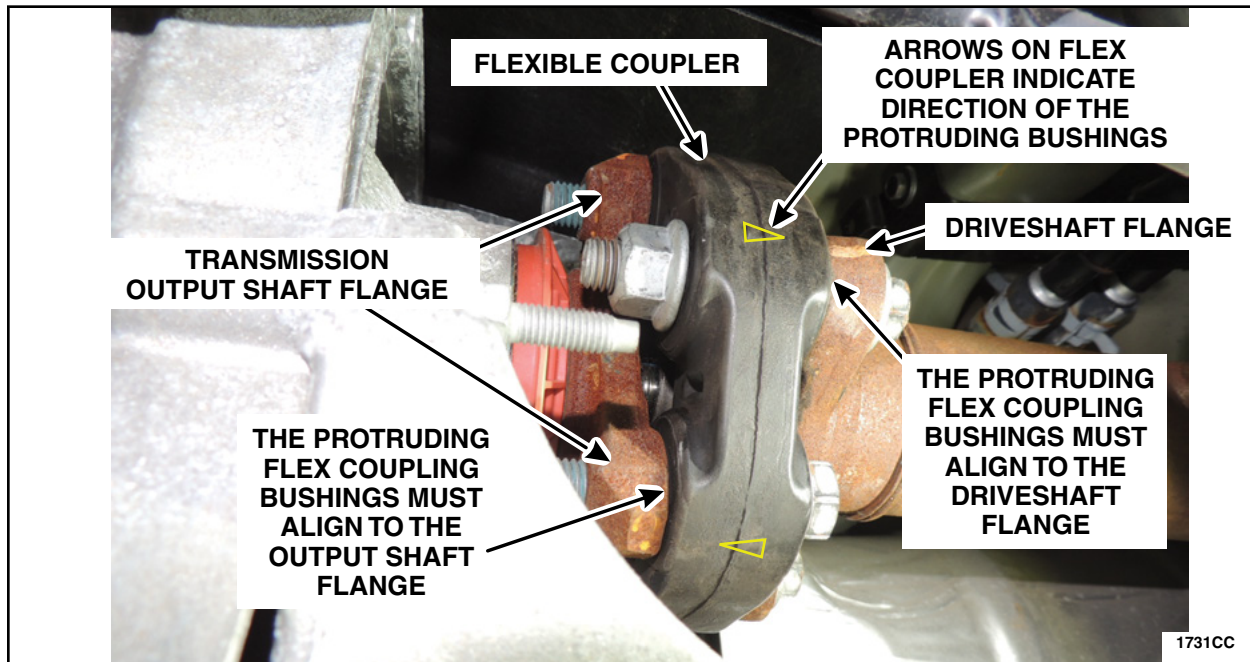

FIGURE 12
10. Reinstall the driveshaft with the appropriate center bearing shim according to the chart in Figure 13. Please follow the Driveshaft Removal and Installation Workshop Manual (WSM) procedure in Section 205-01. See Figures 12, 13 and 14.
NOTICE: The flex coupler must be installed with the blue paint mark facing the transmission output flange. The protruding flex coupling bushings must align with the driveshaft flange and transmission output flange. Arrows should point at the ears of each flange shown in Figure 12.